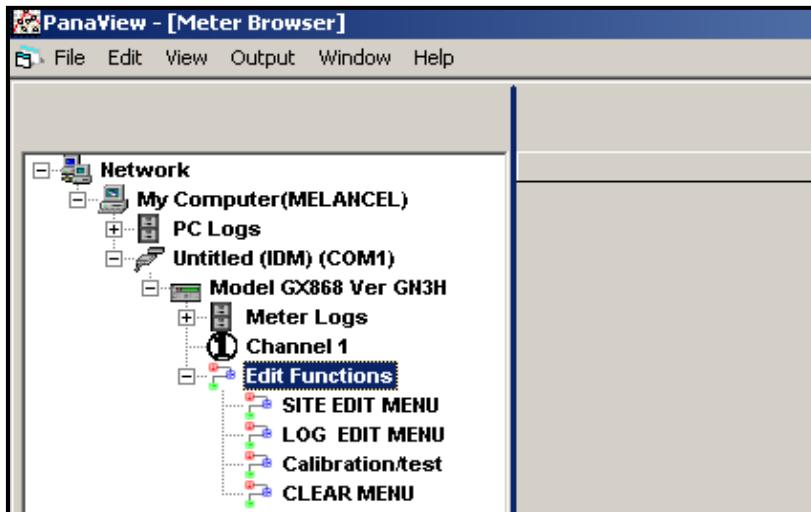

Figure 36: Meter Tree with Edit Functions Option
4. From the meter tree, expand the *Edit Functions* option. The window now appears similar to Figure 36, with a list of available menus. The menus listed are those available on the meter.